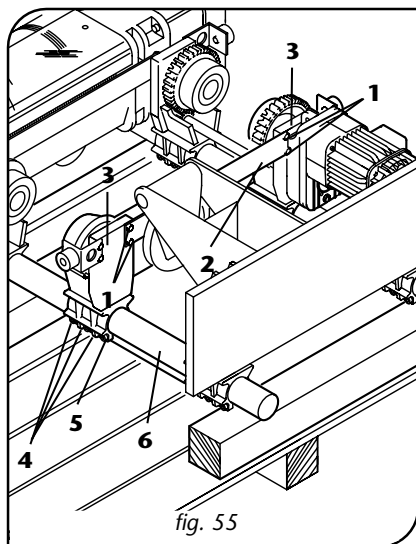

fig. 55
16. Tighten the self-blocking nuts -4- of the brackets -5- (fig. 55) applying the clamping couple shown in the table, with a dynamometric spanner (fig. 56).